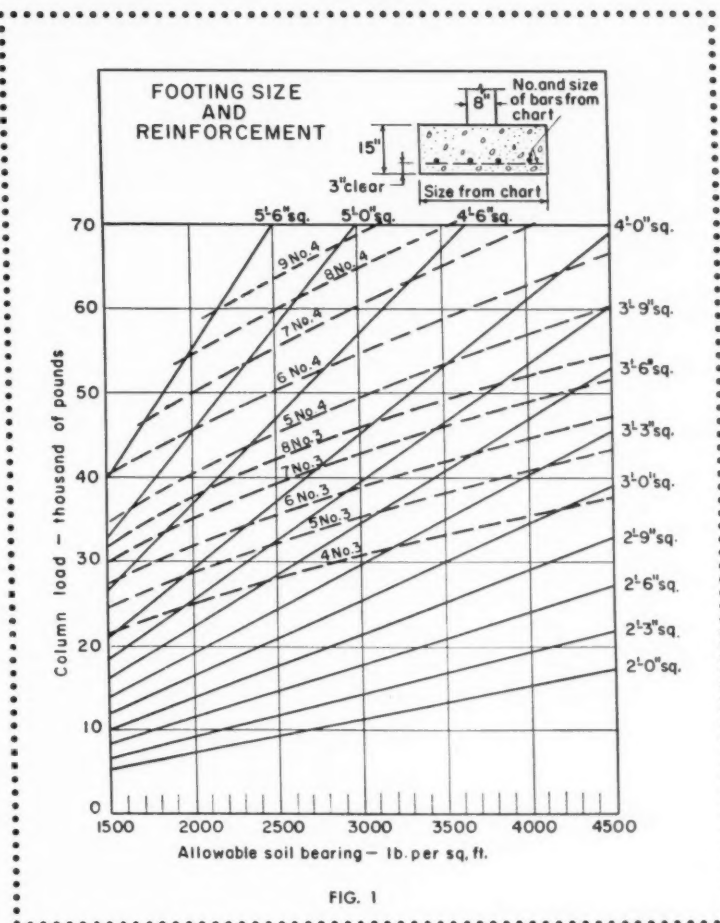

FIG. 1
**Size:** The bearing value of the soil determines the foundation area needed. Test borings are the only sure way of determining actual foundation capacities. Farm structure designs are usually based on presumed bearing capacities for different soil types. Fig. 1 shows the range of bearing values commonly used. Knowing the load on the footing and the bearing capacity of the soil the size footing can be determined from solid lines on chart.
lines of Figure 1, shown above.
From Fig. 1: 3'-6" sq. footing
From Fig. 1: Seven No. 3